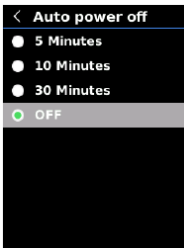

Fig. 20
2. Press the $\wedge$ and $\vee$ buttons to select the desired Auto Power Off option between "Off", "5 Min", "10 Min" or "30 Min" (Fig. 20).